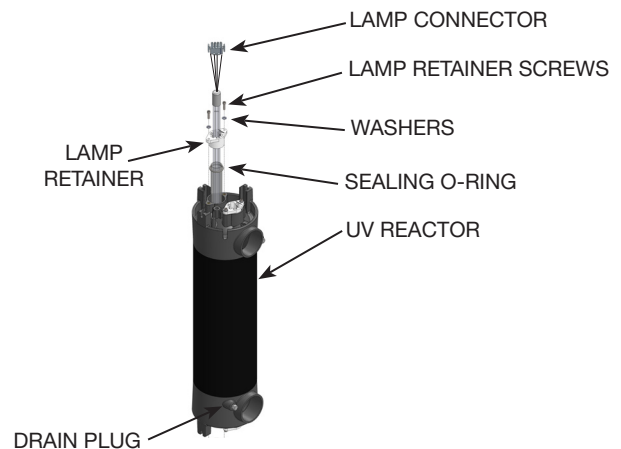

Figure 7: UV Reactor Subassembly
3. Locate the Drain Plug (Refer to Figure 7) and remove to drain the remaining water in the Solar Eclipse.
3. Place the Lamp Retainer over the Quartz Tube and using the hex key included in the parts bag, attach the Lamp Retainer to the UV Reactor using the Lamp Retainer Screws and Washers as shown in Figure 7. Make sure the Lamp Retainer flanges are fully seated against the UV Reactor.